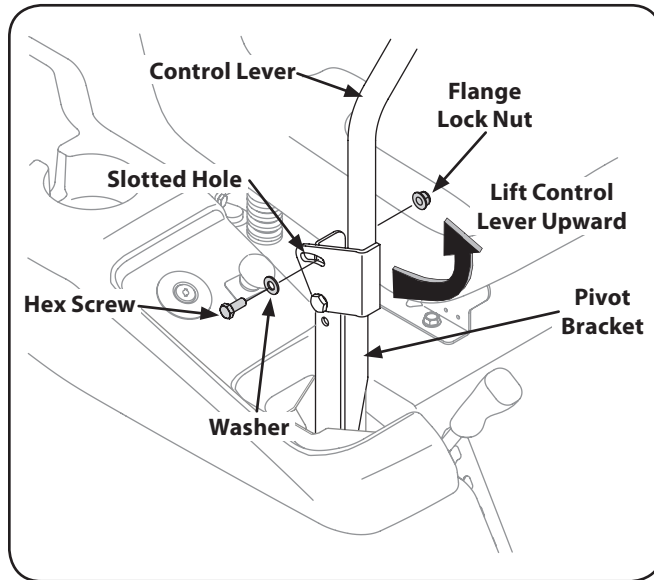

Figure 3-4
2. Lift and swing that control lever upward until the slotted hole in the lever bracket aligns with one of the holes in the pivot bracket. See Fig. 3-4.
3. Slide the flat washer onto the hex screw. From the outside, insert the hex screw with washer through the control lever slot and the hole of the pivot bracket. Secure with the flange lock nut. See Fig. 3-4.